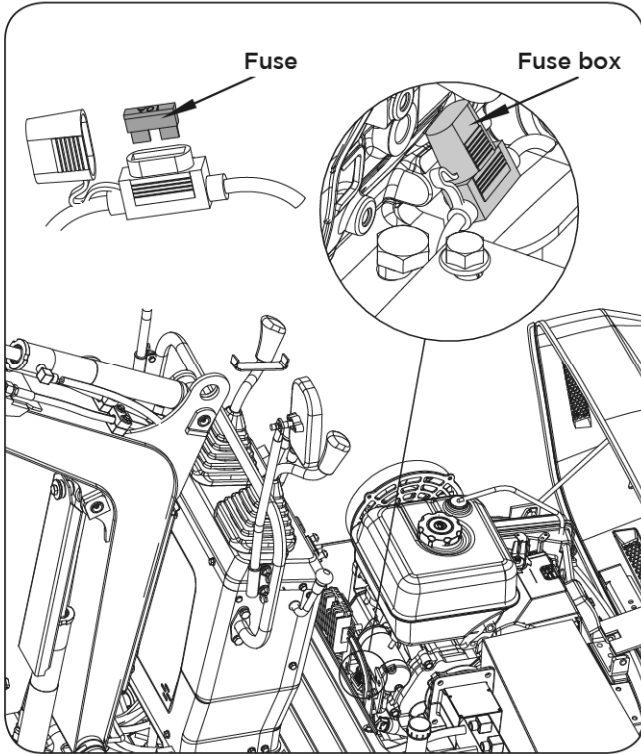

Figure 105
2. Replace the burn out fuse with the new fuse having the same capacity. (See **Figure 105 & 106**)